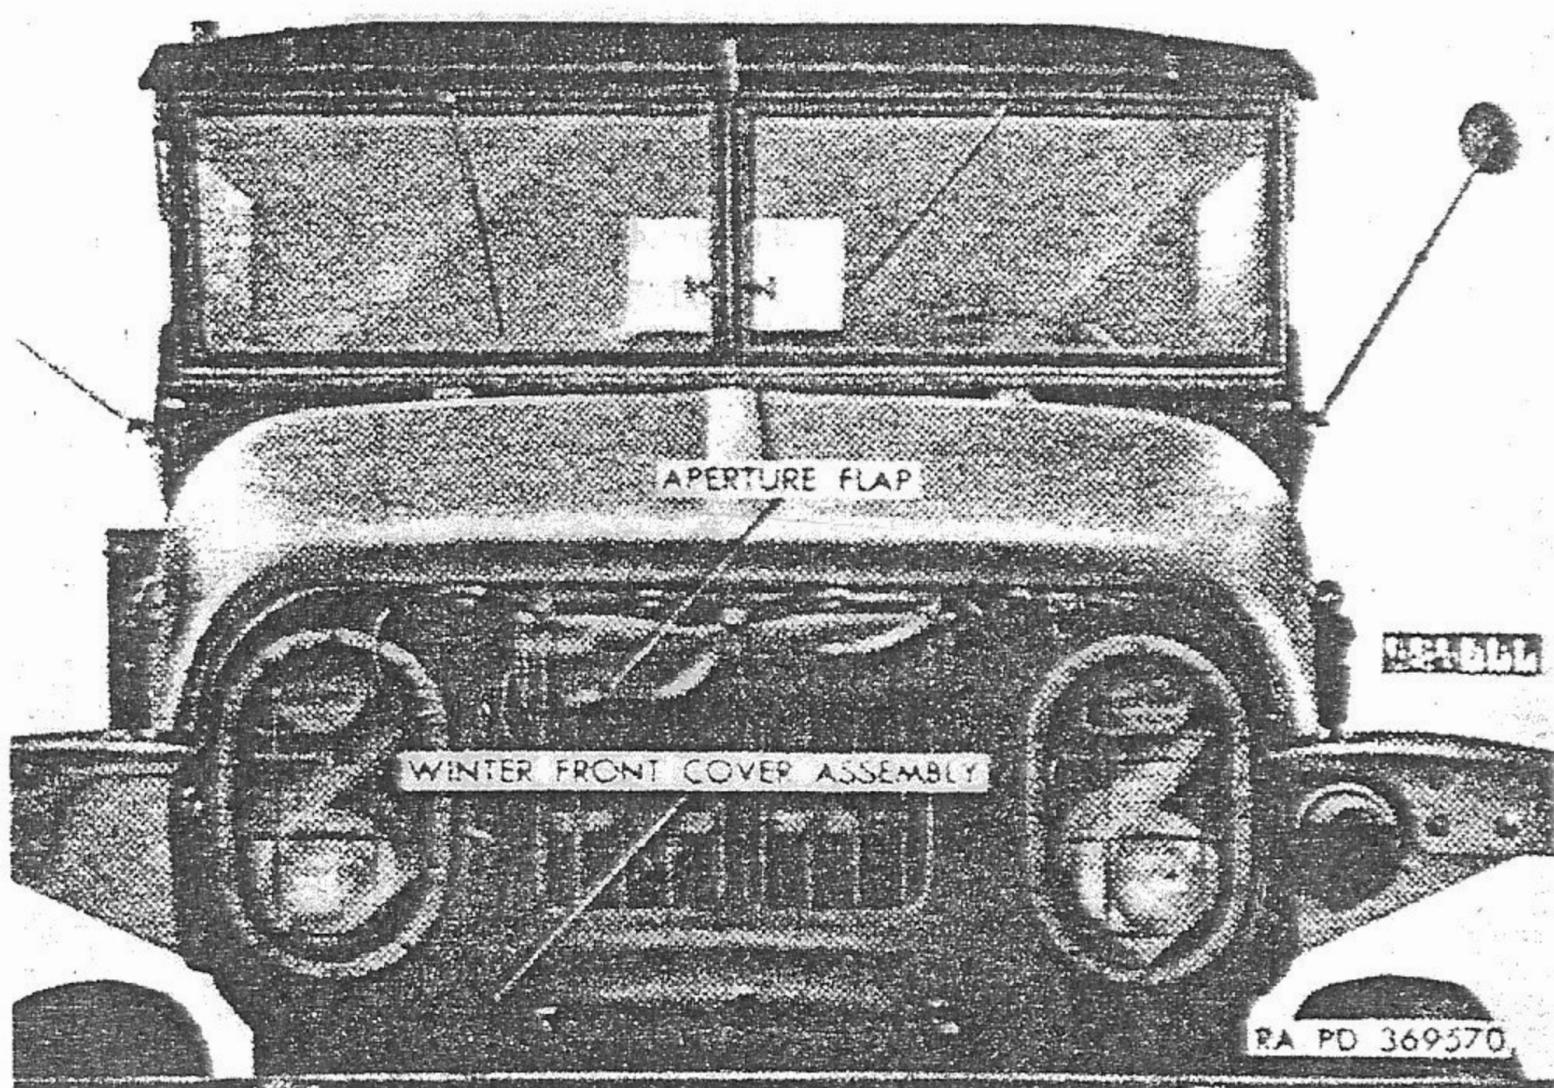
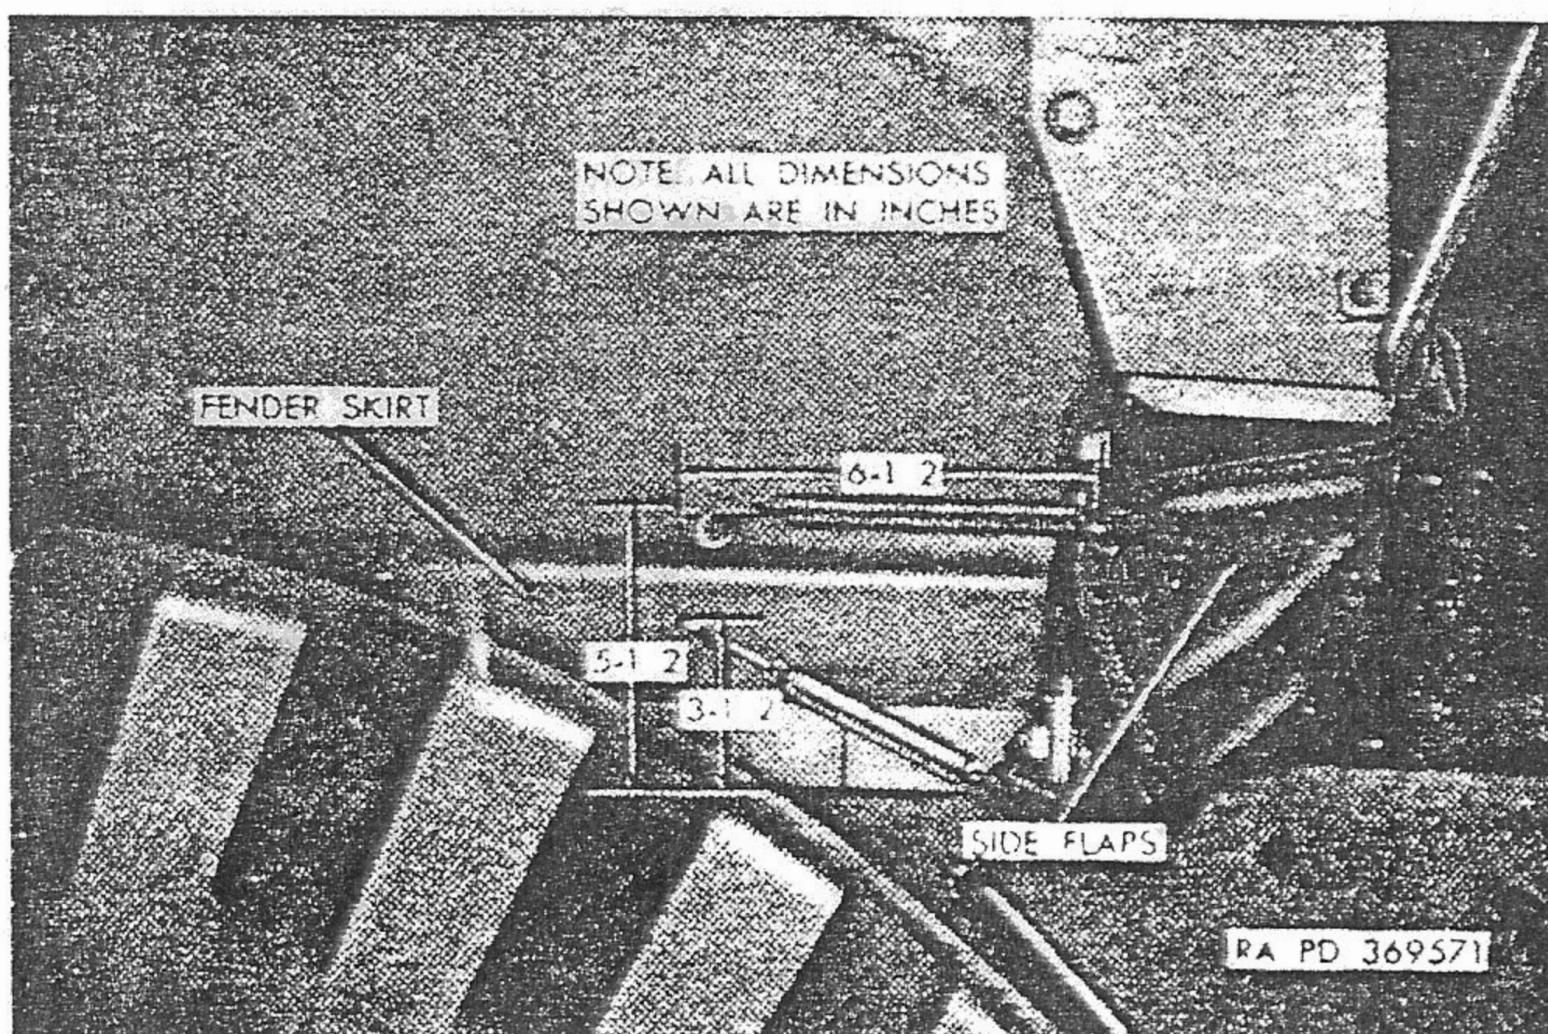

Figure 16. Winterfront cover assembly installed.
Figure 17. Side flaps secured.
c. Install the winterfront cover assembly over the radiator and pass the lacing through the loops to secure the cover as shown in figure 16. Pull the bottom flap under the grille and hook the springs to the cross member. Pull the two side flaps back at the sides, locate and drill two 1/8-inch holes in each fender skirt, and hook the springs as shown in figure 17.
d. Adjust aperture flap (fig. 16) to suit the weather conditions. The most efficient engine operating temperature is 180° F. To reach this operating temperature, the winterfront cover assembly should be entirely closed.